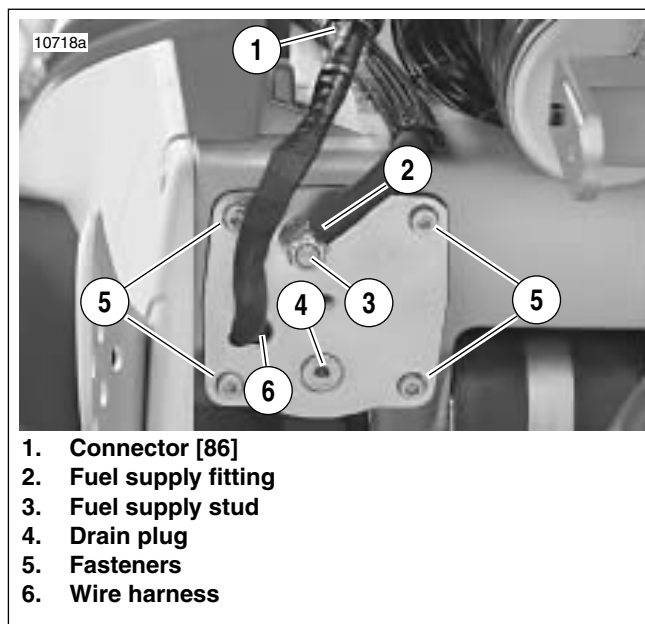

Figure 4-102. Fuel Pump Wire Harness Location
3. See Figure 4-102. Remove terminals from fuel pump connector [86].